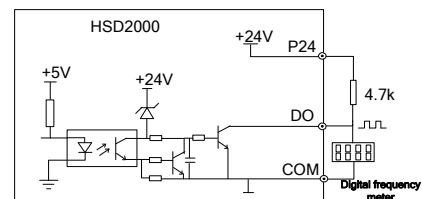

Figure 4-23: Output Terminal DO Connection 1
3. Digital pulse frequency output DO may use servo drive internal 24V power supply. The wiring may refer to Figure 4-23.